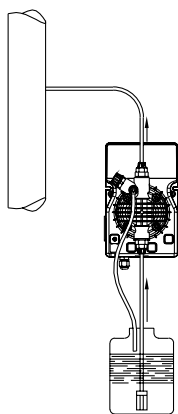
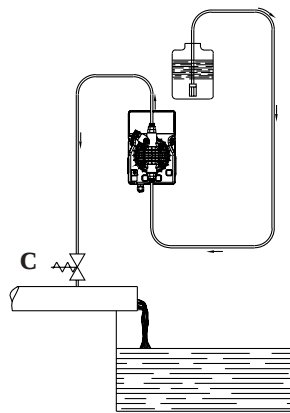

Fig. 5
Fig. 6
- c.- Locate the pump as shown in fig. 5 bearing in mind that it may be installed either below or above the level of the liquid to be dosed, though the level difference should not exceed 2 meters. When the process plant in which the pump is installed is operating at atmospheric pressure (no back pressure) and the chemical tank is situated above the plant (Fig. 6), the condition of the injection valve should be checked at regular intervals, because excessive wear and tear could cause additive to drip into the plant even when the pump is shut down. If the problem persist, install a properly calibrate **counter-pressure valve (C)** between injection point and the valve. In the case of liquids that generate aggressive vapours, do not install the pump above the storage tank unless the latter is hermetically sealed.